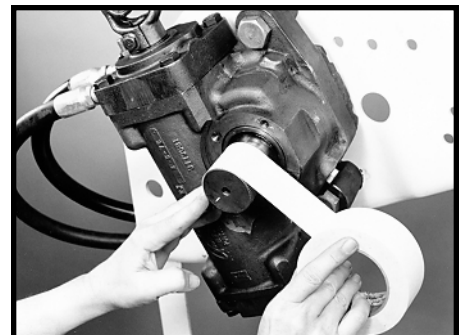

Figure 13
1.9 Cover the serrations of the sector shaft (48) with tape to avoid damaging the seals during installation. SEE FIGURE 13.